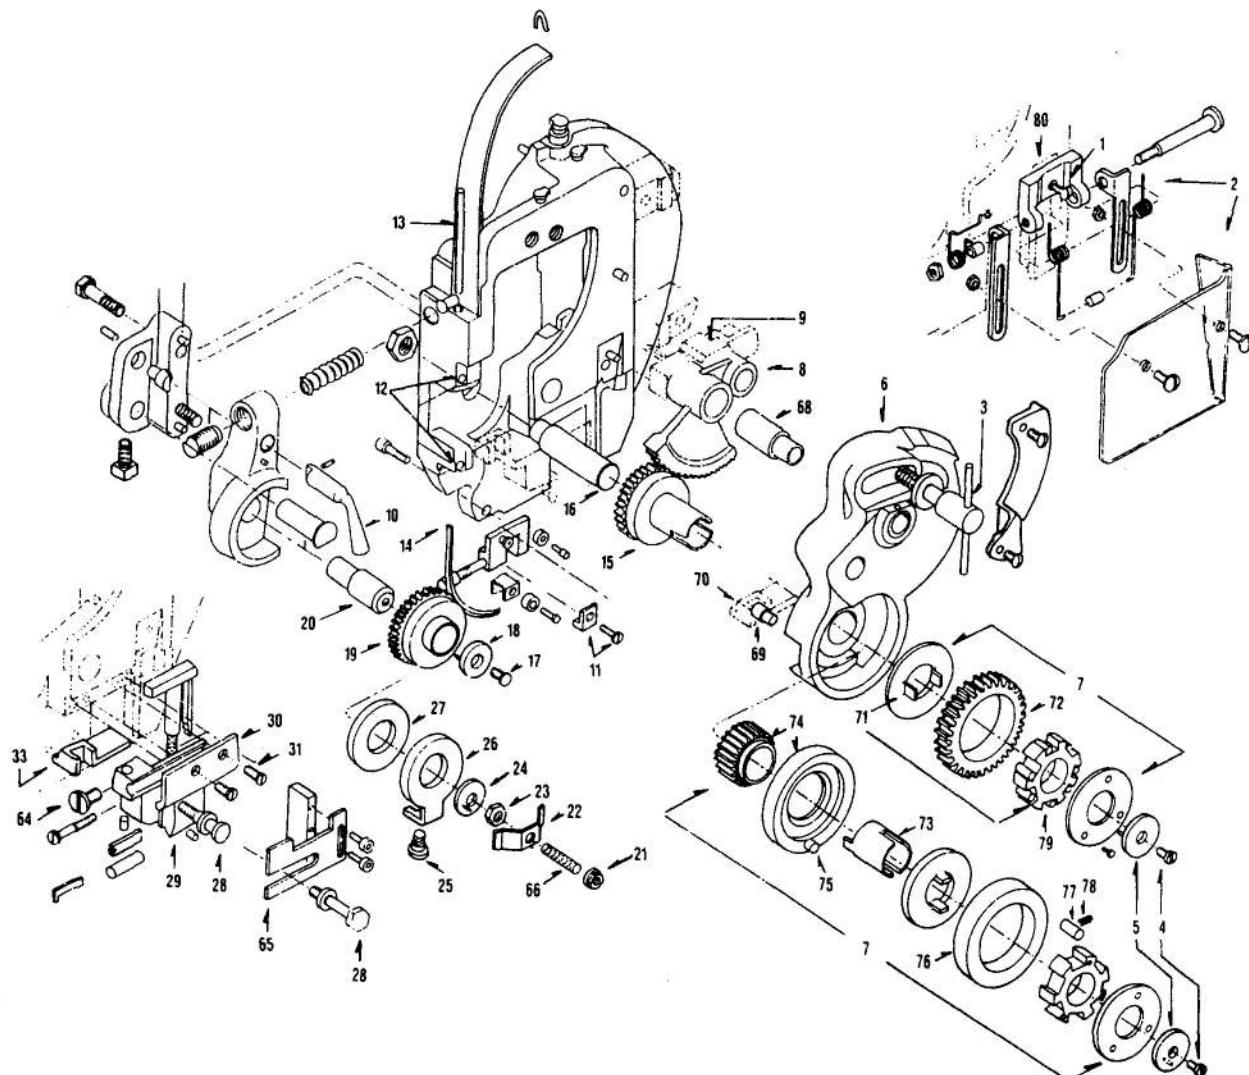

Figure 21 — Disassembling and Reassembling Stitcher Head
(See Fig. 21)
Figure 21 illustrates the disassembling and reassembling procedures only and is not intended to identify parts for purposes of ordering parts. For ordering parts see Fig. 22 and 23, and the accompanying Parts List.
#### a. HOW TO REMOVE WIRE FEED, WIRE CUTTING, AND GRIPPER ASSEMBLIES (See Fig. 21).
**b. HOW TO REMOVE WIRE FORMING AND DRIVING ASSEMBLIES (See Fig. 21).**
**c. HOW TO REINSTALL WIRE FORMING AND DRIVING ASSEMBLIES (See Fig. 21).**
**d. HOW TO REINSTALL WIRE FEED, WIRE CUTTING, AND GRIPPER ASSEMBLIES (See Fig. 21).**